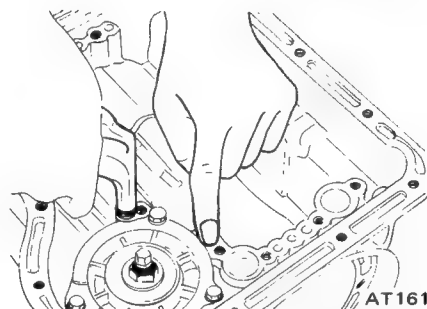

Fig. AT-94 Testing piston (Release side)
4. With apply-side of piston plugged with thumb, blow air under pressure into cylinder from release-side as shown in Figure AT-94. If retainer is raised a little, it is an indication that attaching bolts are loosened, calling for retightening.